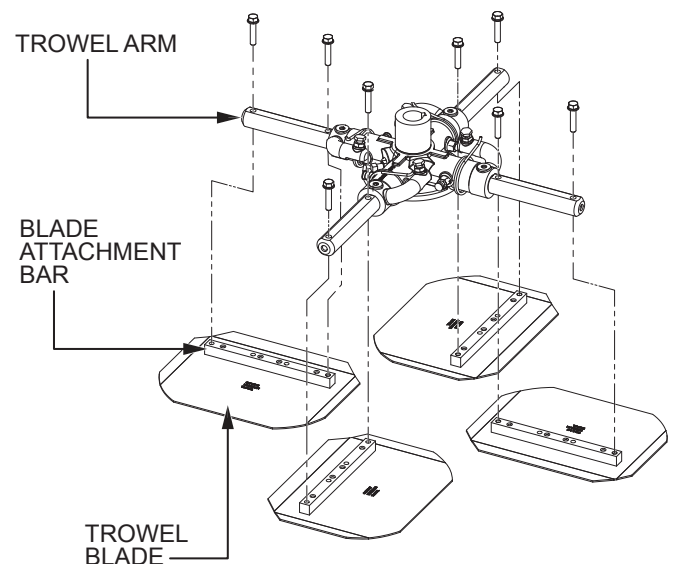

Figure 71. Blade Removal
- Remove the bolts and lock washers from each of the trowel arms, then remove the blades as shown in Figure 71.